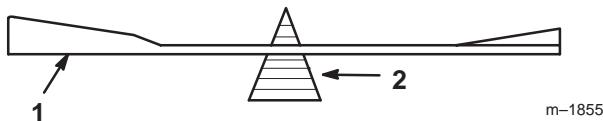

Figure 38
2. Check the balance of the blade by putting it on a blade balancer (Fig. 38). If the blade stays in a horizontal position, the blade is balanced and can be used. If the blade is not balanced, file some metal off of the end of the sail area only (Fig. 36). Repeat this procedure until the blade is balanced.